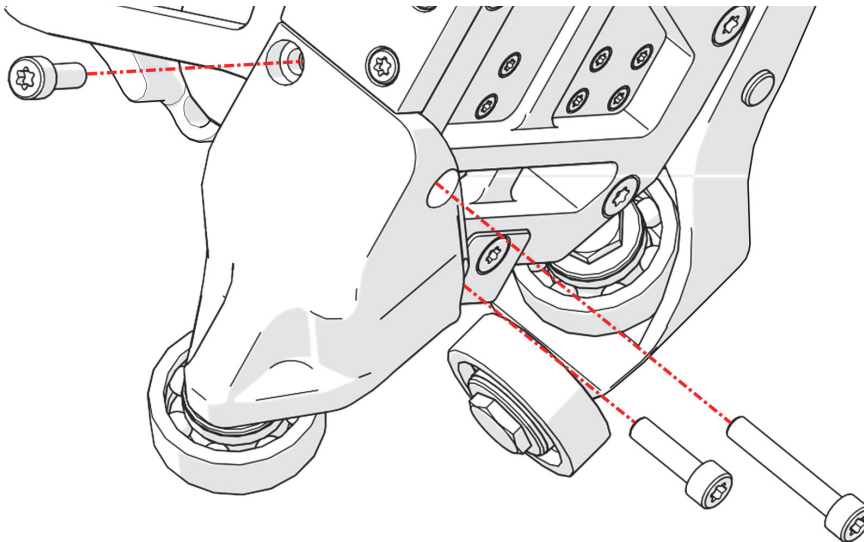

Figure 2-27 Remove the bearing assembly screws
6. Using a T-25 Torx driver, remove the three screws from the left-hand wheel and bearing assembly (see Figure 2-27 on page 102).